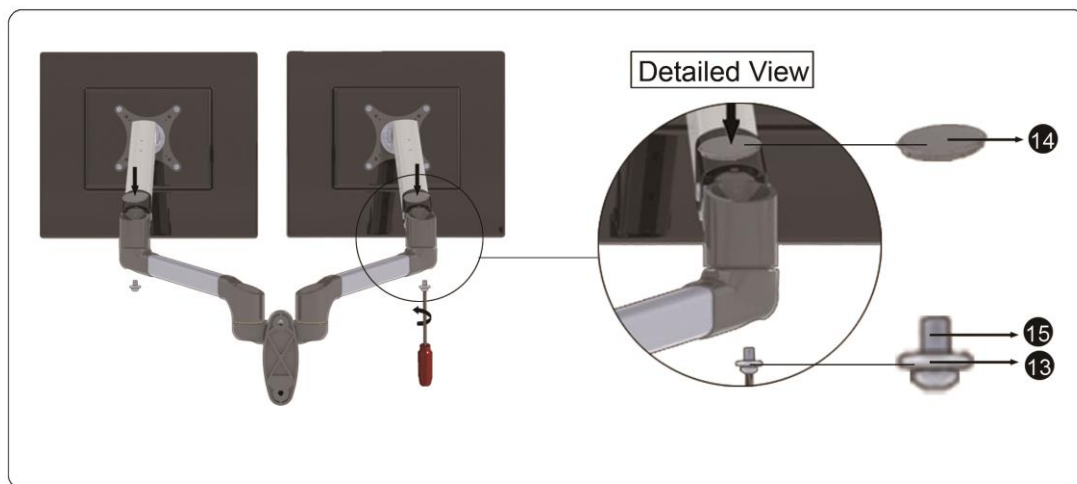

Figure 3-4
4. Place the arm Covers (**14**) on the pivot points. Place the Phillips Screws M6x12mm (**15**) through the Plastic Washers M6 (**13**) and into the bottom of the pivot points. Securely tighten with a Phillips Screwdriver. Do not over tighten (**See Figure 3-4**).